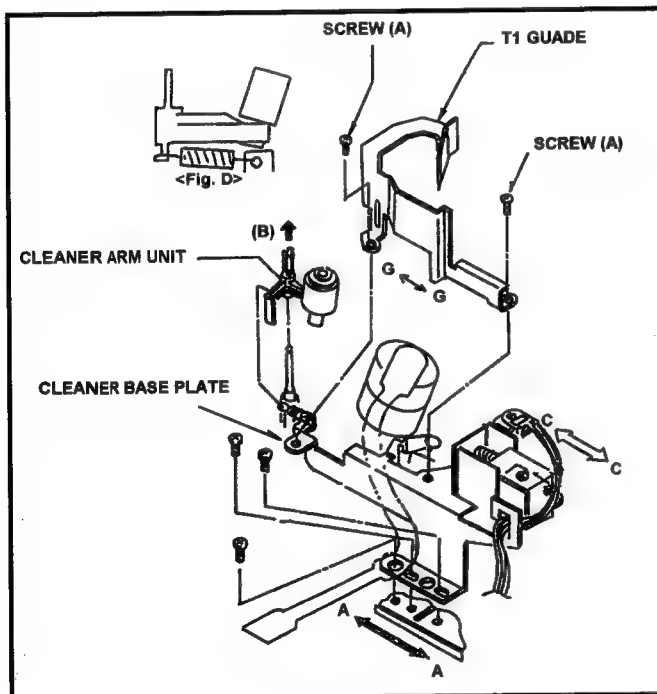

Fig. 6-1-5
1. Unscrew the 2 screws (A) to remove the T1 Guide as shown in Figure 6-1-5.
2. Pick up the tip portion (B) of Cleaning Arm Unit and remove the spring from Cleaner Arm Unit. Then remove the Cleaning Arm Unit as shown in Figure 6-1-5.